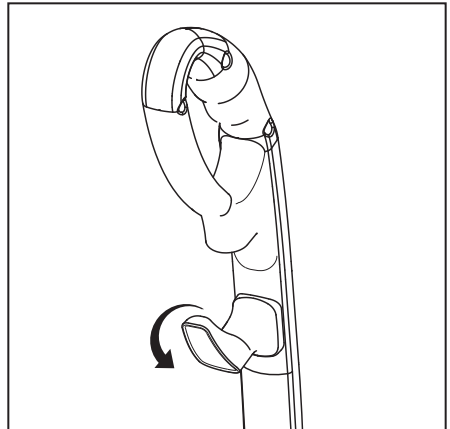

Fig. 3
- The Quick Release Upper Cord Hook rotates to allow for quick access to the power cord. Turn the upper cord hook downward and you can quickly drop the power cord to the floor without unwinding it from the cord hooks (Fig. 3).